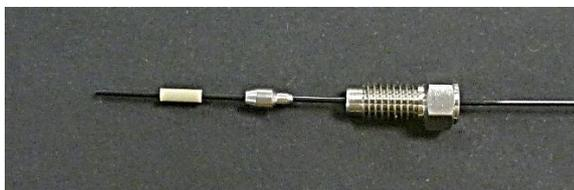

Figure 23. Assembly of PEEK sleeve, nut and ferrule onto 1/32" OD PEEKSil tubing for connection with a 1/16" receiving port.
- Slide the nut, ferrule and PEEK sleeve in the correct direction onto the tube end (as in Figure 23).